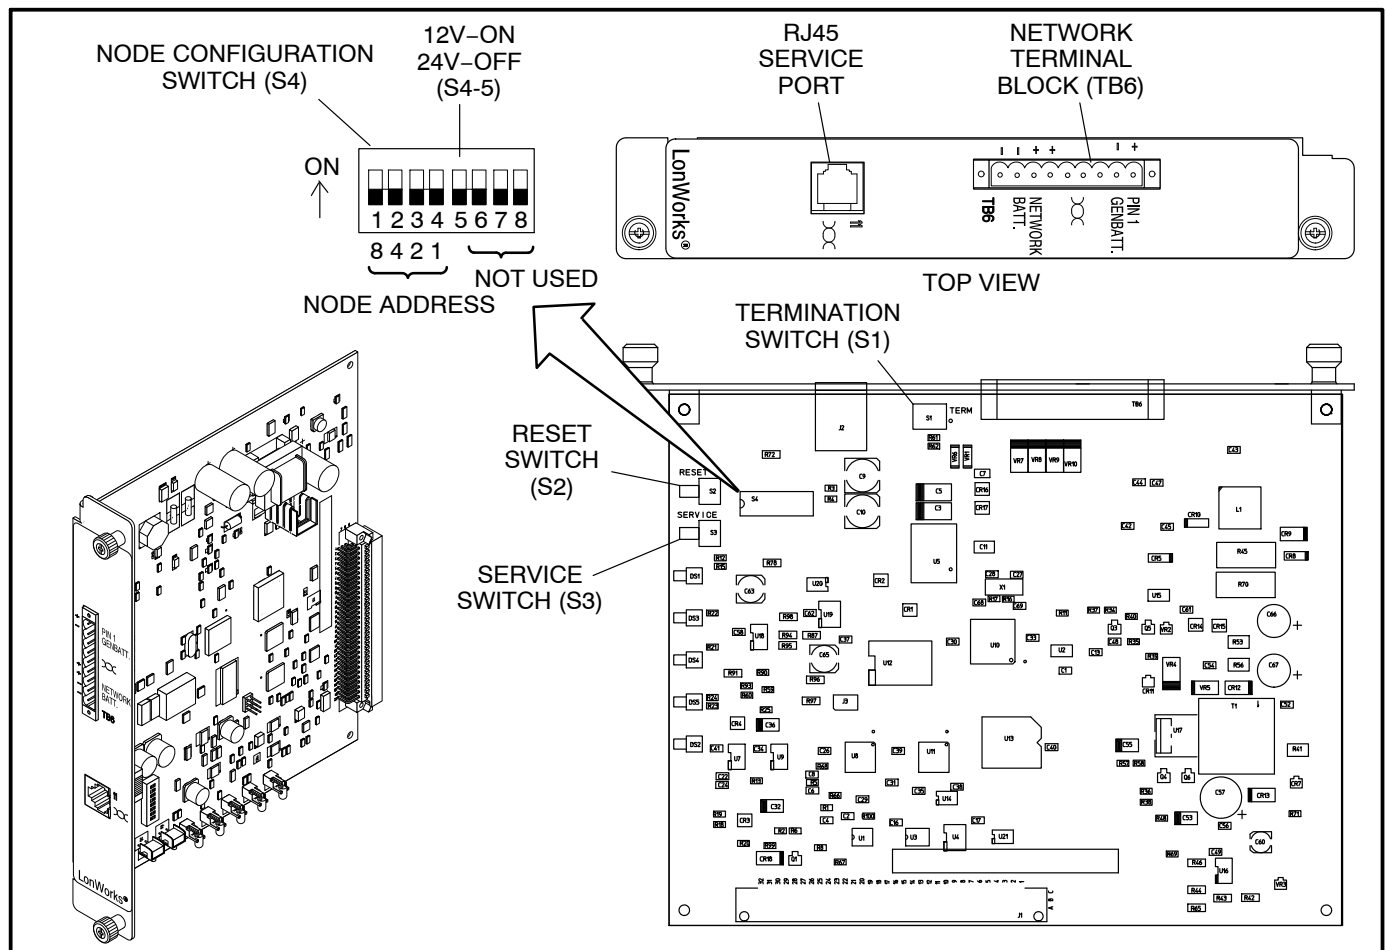

FIGURE 9-1. NETWORK COMMUNICATIONS MODULE
The Genset LONWORKS® Card (GLC) is required for connection of a PowerCommand® (PCC 3200) Genset to a LONWORKS® FT-10 network. The GLC (Figure 9-1) provides an interface for data from the PCC 3200 control to other modules within the network. It communicates with the PCC 3200 control via the backplane of the card cage assembly.
1. If the device is terminated, the termination switch (S1) must be set to the **ON** position. See Figure 9-1 for the location of the Termination switch.
2. Set **S4-5** to the **ON** position for a 12V-battery system or to **OFF** for a 24V-battery system (Figure 9-1). (The GLC will automatically wake the genset controller if the battery is below the respective threshold.)
3. Each node on a self-installed network must have a unique address. Switches 1 through 4 of the Node Configuration Switch (S4) are used to set the *Node Address*. See Figure 9-1 for the location of the Node Configuration switch.